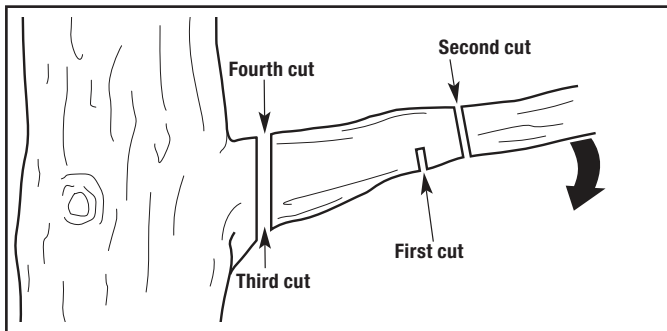

Figure 21
1. Make the first cut approximately 6 inches (15 cm) from the tree trunk. Cut upward, from the underside of the limb. Use the top of the guide bar to make this cut. Cut a third of the way through the diameter of the limb (Fig. 21).
2. Make the second cut 2 - 4 inches (5 - 10 cm) farther out on the limb. Cut downward, from the top of the limb. Use the bottom of the guide bar to make this cut. Cut completely through the limb (Fig. 21).
3. Make the third cut as close to the tree trunk as possible. Cut upward, from the underside of the limb stub. Use the top of the guide bar to make this cut. Cut a third of the way through the diameter of the limb (Fig. 21).
4. Make the fourth cut directly above the third cut. Cut downward, from the top of the limb stub. Use the bottom of the guide bar to make this cut. Cut completely through the limb stub to meet the third cut (Fig. 21). This will remove the limb stub.